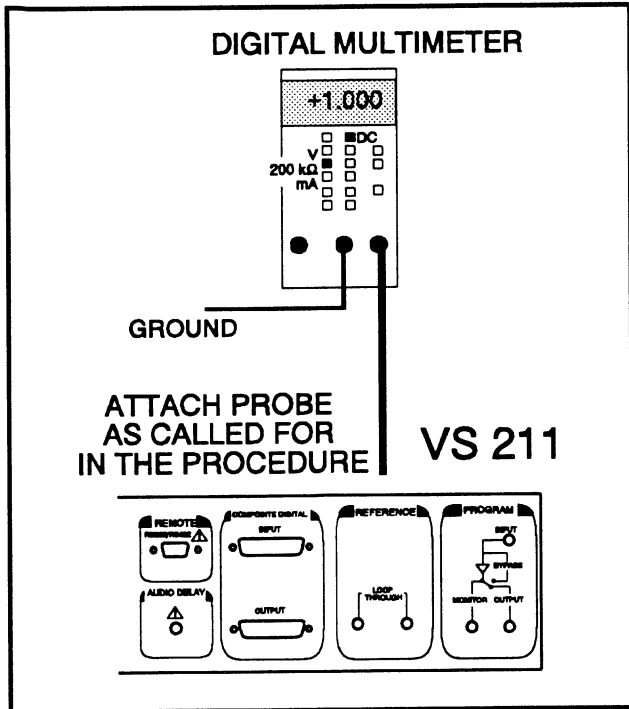

Fig. 4-33. Setup to adjust the DAC reference voltage.
- Connect the equipment as shown in Fig. 4-33.